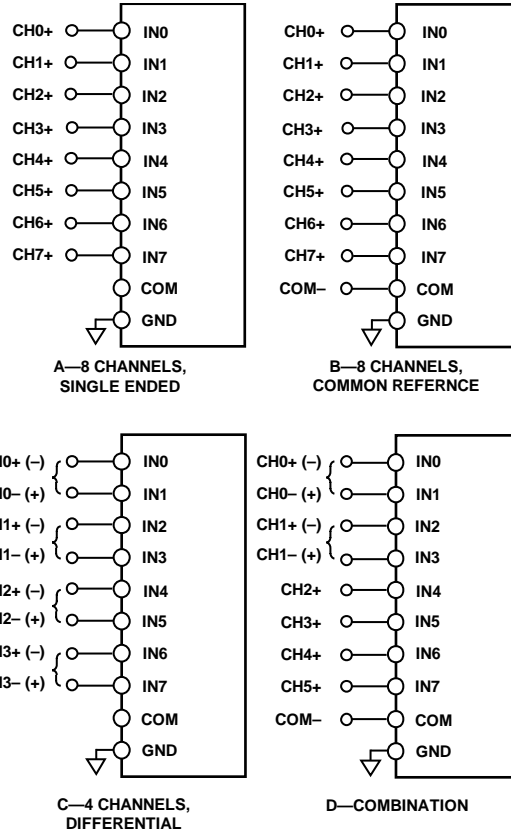

Figure 32. Multiplexed Analog Input Configurations
Figure 32 shows the different methods for configuring the analog inputs with the configuration register, CFG[12:10]. Refer to the Configuration Register, CFG, section for more details.
- Figure 32 (A), single-ended referenced to system ground; CFG[12:10] = 111₂. In this configuration, all inputs (IN[7:0]) have a range of GND to V_{REF}.
- Figure 32 (B), bipolar differential with a common reference point; COM = V_{REF}/2; CFG[12:10] = 010₂. Unipolar differential with COM connected to a ground sense; CFG[12:10] = 110₂. In this configuration, all inputs IN[7:0] have a range of GND to V_{REF}.
- Figure 32 (C), bipolar differential pairs with the negative input channel referenced to V_{REF}/2; CFG[12:10] = 00X₂. Unipolar differential pairs with the negative input channel referenced to a ground sense; CFG[12:10] = 10X₂. In these configurations, the positive input channels have the range of GND to V_{REF}. The negative input channels are a sense referred to V_{REF}/2 for bipolar pairs, or GND for unipolar pairs. The positive channel is configured with CFG[9:7]. If CFG[9:7] is even, then IN0, IN2, IN4, and IN6 are used. If CFG[9:7] is odd, then IN1, IN3, IN5, and IN7 are used, as indicated by the channels with parentheses in Figure 32 (C). For example, for IN0/IN1 pairs with the positive channel on IN0, CFG[9:7] = 000₂. For IN4/IN5 pairs with the positive channel on IN5, CFG[9:7] = 101₂. Note that for the sequencer, detailed in the Channel Sequencer section, the positive channels are always IN0, IN2, IN4, and IN6.
- Figure 32 (D), inputs configured in any of the preceding combinations (showing that the AD7682/AD7689 can be configured dynamically).